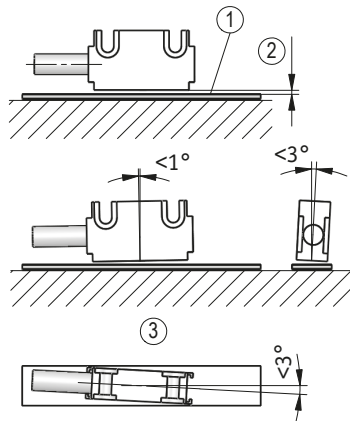

Fig. 7: Assemblage sensor / magnetic tape, gap measure, tolerances
- The distance tolerances were not observed over the whole measuring length (see Fig. 7).
- The magnetic sensor has been mounted with the active side turned away from the band (see Fig. 7).
- Magnetic sensor has not been aligned according to Fig. 7.